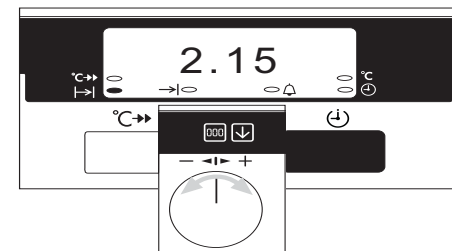

Fig.7
- iv) To set the length of cooking time, press the Time Selector button until the 'Cook Time' indicator neon is illuminated (  ). Turn the main oven increase/decrease selector (  ) until the required length of cooking time is displayed, e.g. 2 hrs 15 mins as Fig. 7.